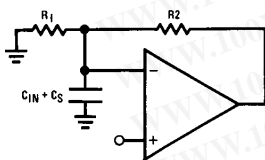

FIGURE 2
**Input Capacitance:** The input capacitance,  $C_{IN}$ , of the LM146 is approximately 2 pF; any stray capacitance,  $C_S$ , (due to external circuit layout) will add to  $C_{IN}$ . When resistive or active feedback is applied, an additional pole is added to the open loop frequency response of the device. For instance with resistive feedback (Figure 2), this pole occurs at  $\frac{1}{2\pi} (R_1 || R_2) (C_{IN} + C_S)$ . Make sure that this pole occurs at least 2 octaves beyond the expected -3 dB frequency corner of the closed loop gain of the amplifier; if not, place a lead capacitor in the feedback such that the time constant of this capacitor and the resistance it parallels is equal to the  $R_1(C_S + C_{IN})$ , where  $R_1$  is the input resistance of the circuit.